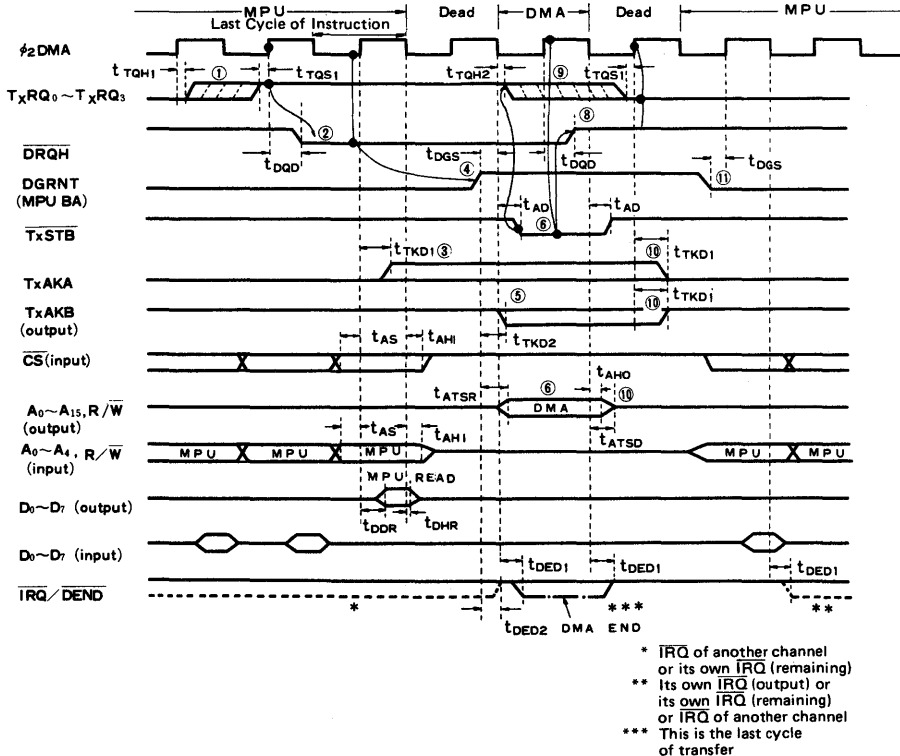
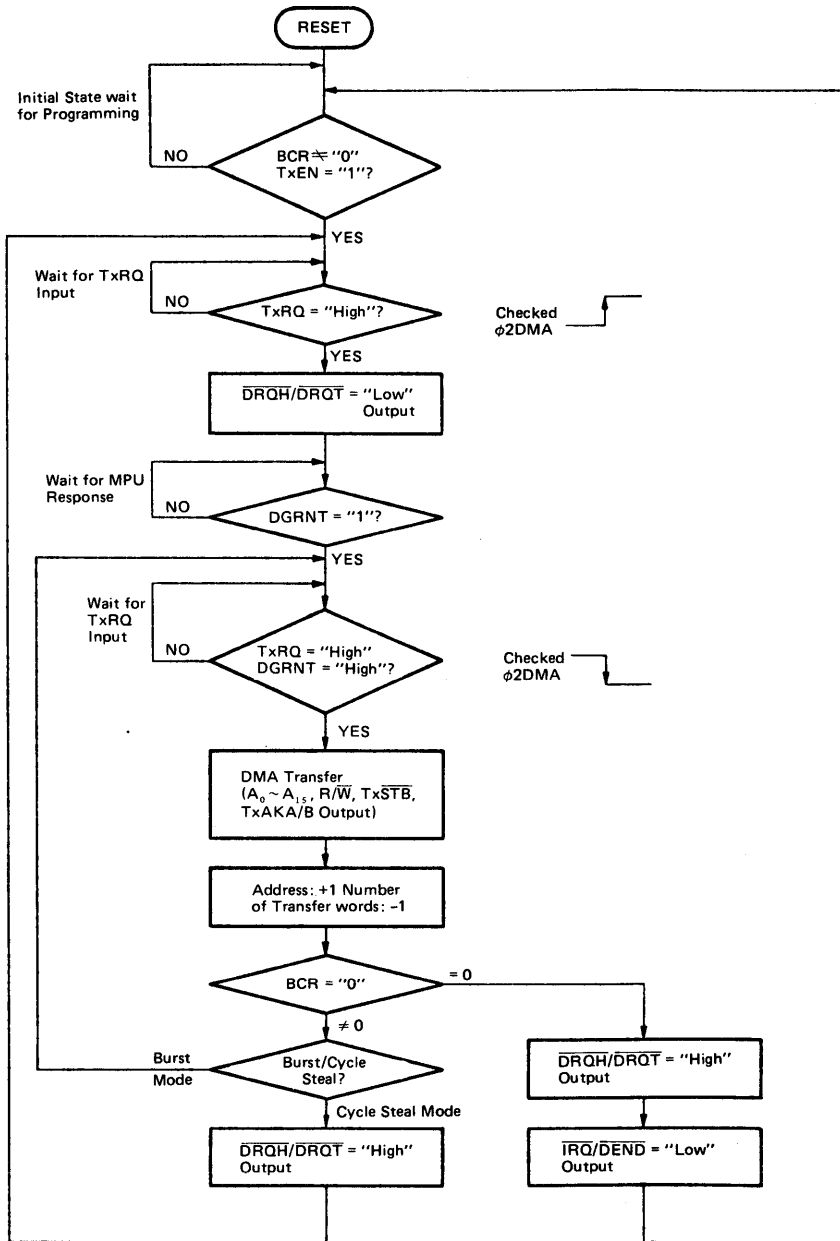
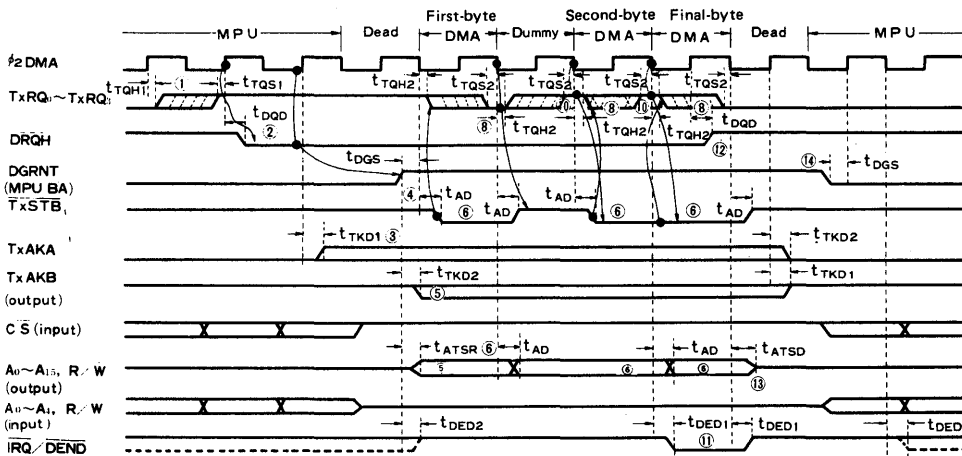
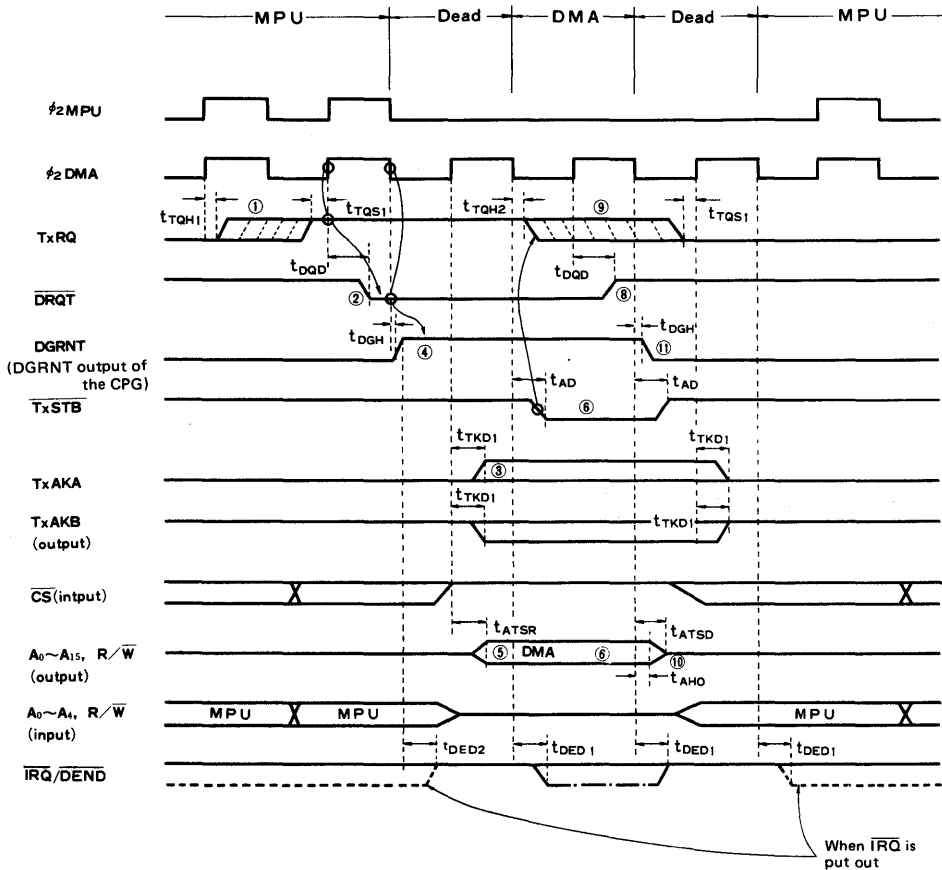

Figure 12 HALT Cycle Steal Mode
Figure 13 Flow Chart of DMAC Operation
Figure 16 HALT Burst Mode
Figure 17 TSC Cycle Steal Mode
Timing chart is shown in Fig. 12 and flow chart is shown in Fig. 13. Procedure of transfer operation is the following. (No. ① ~ ⑪ in Fig. 12 correspond to the following items.)
- ① TxRQ0~TxRQ3 input is checked at the rising edge of  $\phi_2$ DMA. When it is at "High" level, it gets into the following operation.
- ②  $\overline{DRQH}$ ="Low" is output and MPU is requested to stop its operation.
- ③ TxAKA is driven (Level output).
- ④ MPU stops its operation and DMAC waits until DGRNT goes to "High" level.
- ⑤ When DGRNT goes to "High" level, DMAC drives TxAKB, A0~A15 and R/W lines.
- ⑥ TxSTB is given to perform DMA transfer.
- ⑦ Address is incremented by one and number of transfer words is decremented by one.
- ⑧ When  $\overline{DRQH}$  rises to "High" level, MPU gets into Instruction Cycle again.
- ⑨ TxRQ falls to "Low" level.
- ⑩ A0~A15 and R/W get into high impedance state again.
[Note] TxRQ0~TxRQ3 input is, in principle as shown in Fig. 12, set to "High" on account of I/O request. When  $\overline{TxSTB}$  of the DMAC is driven, it is reset to "Low". Take care not to be against this principle, or the following states may happen.
Its timing chart and flow chart are shown in Fig. 16 and Fig. 13 respectively. Procedure of transfer is the following (No. ① ~ ⑭ in Fig. 16 correspond to the following items).
- ① TxRQ input is checked at the rising edge of  $\phi_2$  DMA. When it is at "High" level, it gets into the following operation.
- ② DRQH="Low" level is given and MPU is requested to stop its operation.
- ③ TxAKA is driven.
- ④ MPU stops and DMAC waits for DGRNT rising "High" level.
- ⑤ When DGRNT rises "High" level, DMAC drives TxAKB,  $A_0 \sim A_{15}$ , and R/W lines.
- ⑥ TxSTB is sent out to perform DMA transfer.
- ⑧ TxRQ falls to "Low" level.
- ⑨ When number of transfer words is 0, from ⑪ to ⑭ operations are performed.
- ⑩ When BCR is not "0", TxRQ is checked at the falling edge of  $\phi_2$  DMA. When TxRQ is at "High" level, DMA transfer is performed through ⑥ ~ ⑧ again. When TxRQ is not at "High" level, DMAC waits for becoming "High" level.
In burst mode, TxRQ should be also, in principle, set to "High" when I/O request is asserted, and reset to "Low" when TxSTB goes to "Low". If TxRQ is asserted as level input without being reset, DMA transfer is performed at all cycles of  $\phi_2$  DMA since TxRQ is always at "High" level at the falling edge of  $\phi_2$  DMA. Its example is shown in the second-byte and the third-byte transfer in Fig. 16.
Its timing chart and flow chart are shown in Fig. 17 and Fig. 13 respectively.